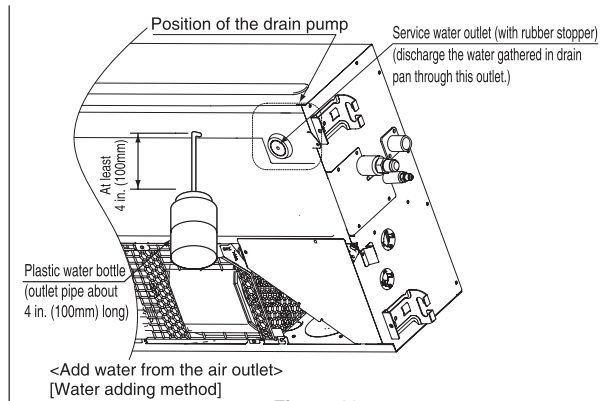

Figure 18
4. After completing drainage inspection (Figures 18 and 19), shut off the power supply and remove the power wiring.